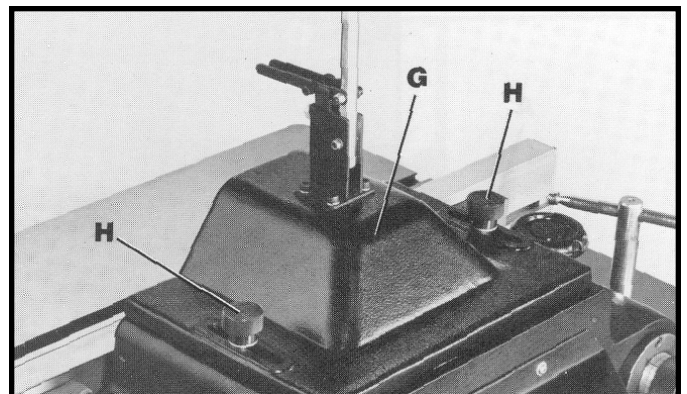

Fig. 22
6. Assemble top cover (G) Fig. 22, to top of fence body using the two locking knobs and washers (H) as shown.